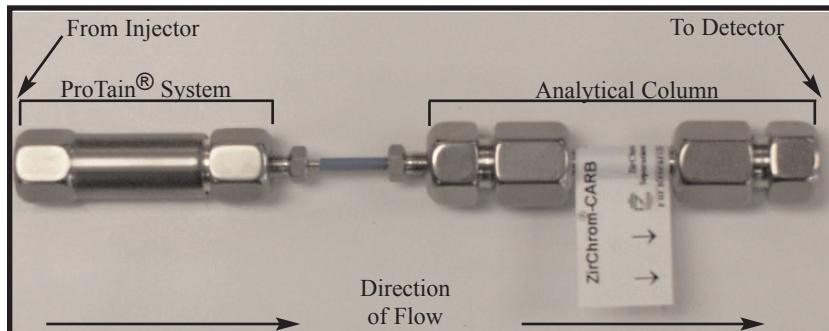

Figure 4: Final Installation
5. As shown in figure 4, connect and appropriately tighten tubing from the injector into the inlet of the Protain® In-Line Protein Removal system (tubing should be 1/16" OD and compatible with analyte and mobile phase). Connect and appropriately tighten tubing from the detector to the outlet of the analytical column.